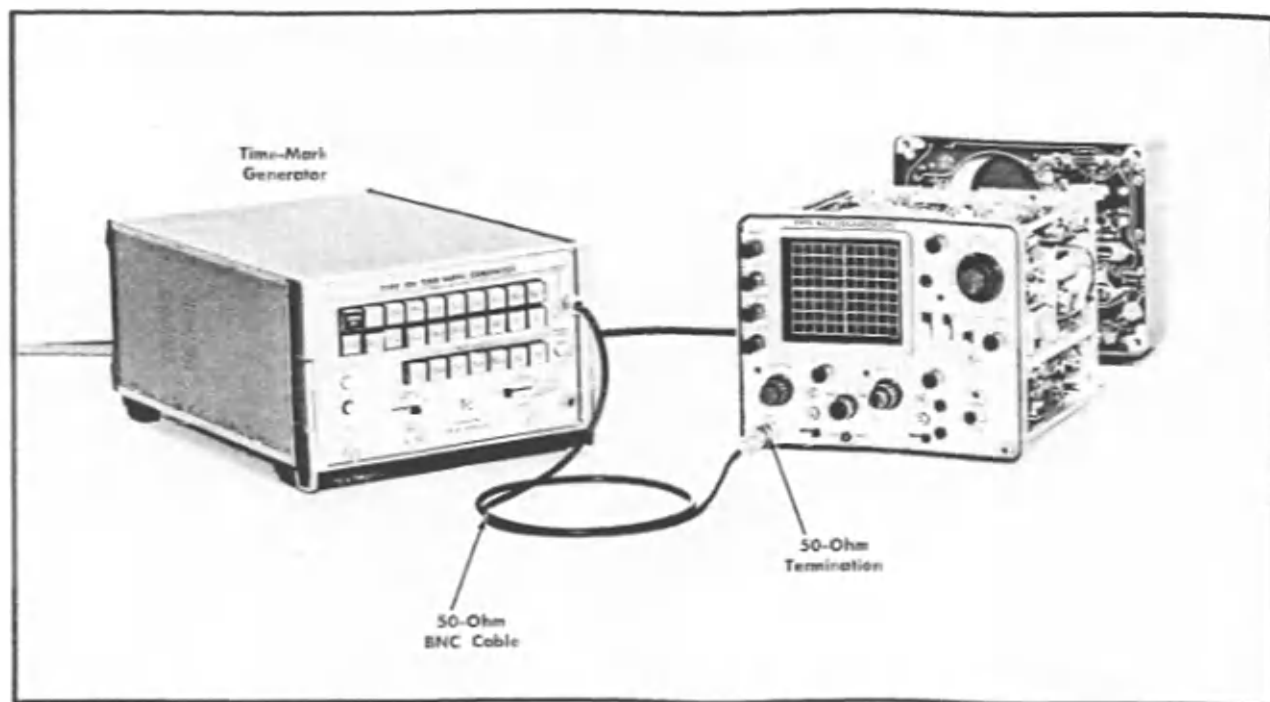

Fig. 6-41. Initial test equipment setup for steps 38-47.
- Test equipment setup is given in Fig. 6-41.